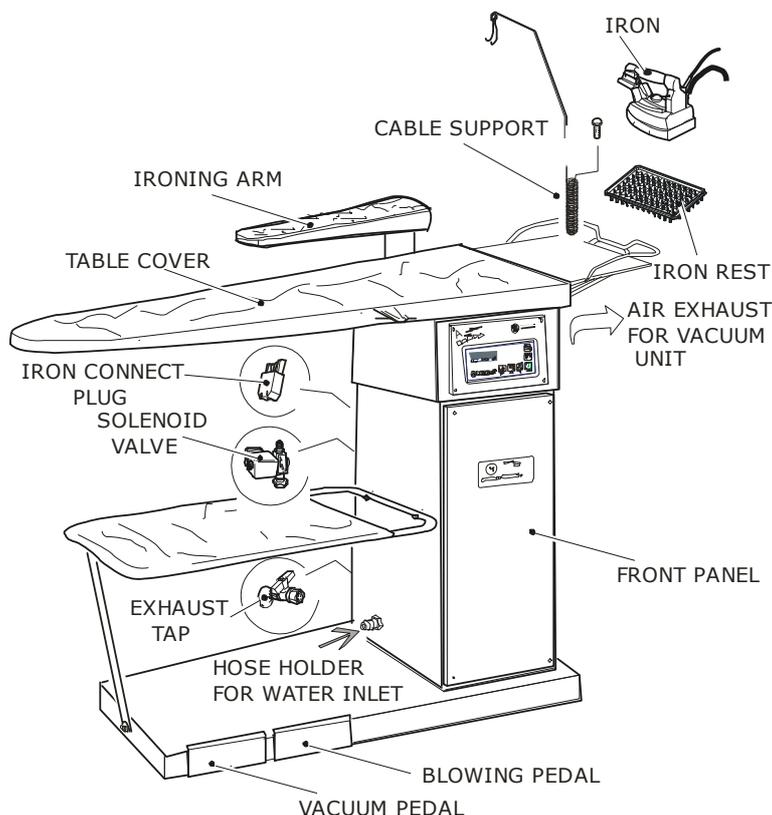

Fig. 1
2. Remove the ARGO from the box, fix the cable support to the ironing board, connect the iron plugs to the steam tubes (**fig. 1**), fix the iron cables to the cable support hook. **ATTENTION:** the irons must be placed on their iron rests on the board.
1. Connect the rubber hose to the hose-holder indicated as WATER INLET placed on the ARGO (**fig. 1**) and turn the water tap on. For ARGO equipped with water tank, you just have to fill it and connect the machine to the mains supply. **N.B.: make sure there is always water inside the water tank.**
3. Turn on the main switch (**fig. 1**) and select the functions which are to be activated. **N.B.:** the settings of the electronic card are memorized every time the main switch is turned off. Once the machine is turned on again, it will start with the settings memorized before the machine was turned off (e.g. if the boiler was on, it will be on upon switching on the machine). **WARNING:** the electronic card automatically performs a check of the software installed. This is why it takes 2 seconds for the machine to turn on.
5. To adjust the steam flux you must work on the steam adjustment tap (**fig. 1: solenoid valve**).
1. Run the iron on the garments, pressing both the red steam button (**fig. 4**) and the suction pedal at regular intervals (**fig. 1**). In order to dry the garments, we advise to keep the foot on the suction pedal a bit longer.
3. loss of water from solenoid valve (**fig. 1**),